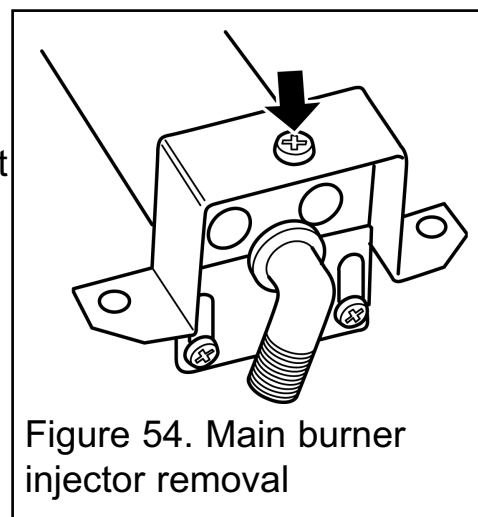

Figure 54. Main burner injector removal
(See figure 54).
2. Remove the burner clamping screw (See figure 54).